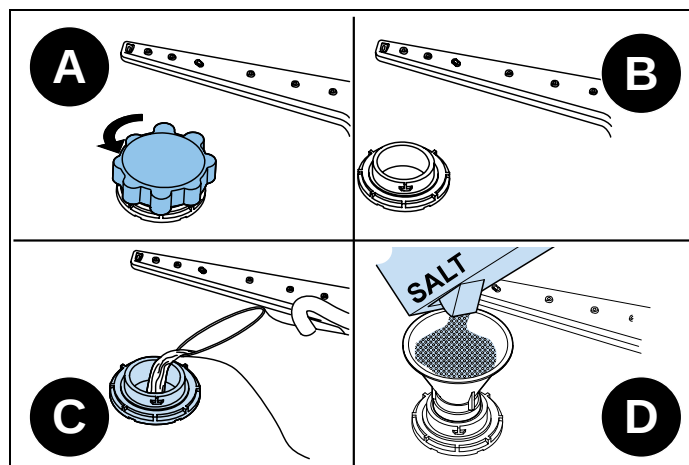

Fig. 74
- 1) To fill the dishwasher with salt, first remove the lower basket and then open the salt compartment cap by turning it counterclockwise. Fig. 74 A-B
- 2) At first use, fill the compartment with 0.6 kg salt and water Fig. 74 C to the overflow level. If available, using the funnel (Fig. D) provided will make filling easier.